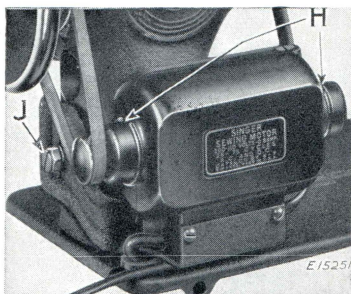

FIG. 19
The lubrication holes (H, Fig. 19) on the motor are filled at the factory with enough grease for about six months' ordinary use.
Belt. See that the belt has the correct tension. This tension should be just enough to keep the belt from slipping. If the belt tension is incorrect, loosen screw (J, Fig. 19) and move the motor up or down until the belt has the correct tension, then tighten the screw (J).